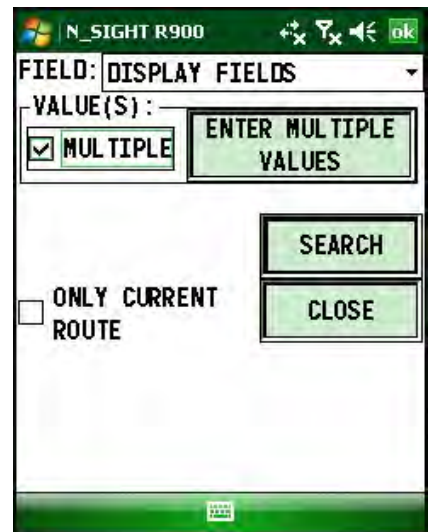

Figure 6.20 Search Screen Enter Multiple Values
- 3 Select **Multiple** to enter more than one value for the search. See Figure 6.20.